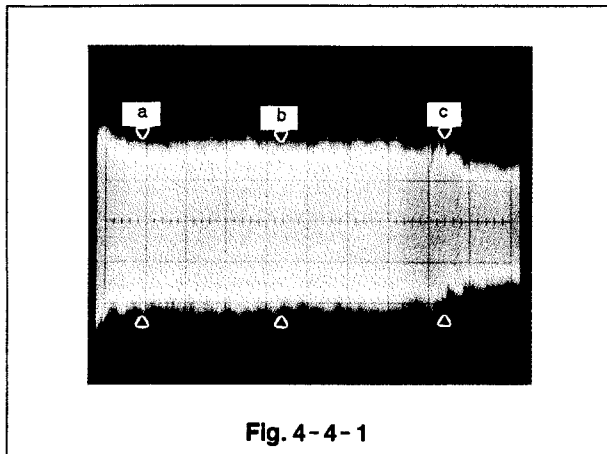

Fig. 4-4-1
- ① Play the alignment tape (staircase waveform : PM6KE2CS).
- ② Connect the oscilloscope to TP2A. Trigger on the TP50 output.
- ③ Connect the TP51 and TP52 of the PCB VTR to ground.
- ④ Press PAUSE button. This enters manual digital tracking mode, enabling tracking with the still adjuster knob.
- ⑤ Turning the still adjuster knob, verify that the amplitude of the FM waveform varies while keeping flatness.
- ⑥ Set the adjuster knob for maximum amplitude. Adjust vertical gain of the oscilloscope so that the waveform swings over 5 divisions on the scope graticule.
- ⑦ Adjust the still adjuster knob so that the middle portion (Portion "b" in Fig. 4-4-1) of the waveform is 80% the maximum amplitude, i.e. 4 divisions of the scope graticule. Verify that the FM waveform amplitude at drum supply side (portion "a" in the figure) and takeup side (portion "b" in the figure) are at 3.2 divisions of graticule.
- ⑧ If these values are not met, repeat the adjustment steps.